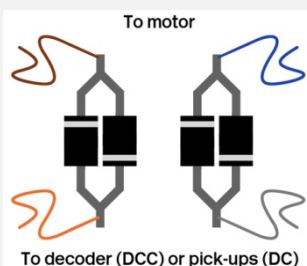
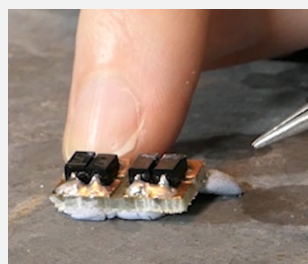
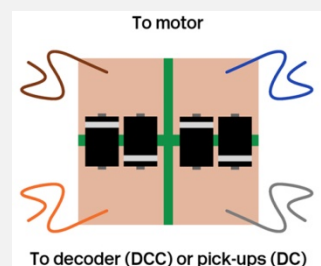

Figure 2: Through-hole variant
Figure 3: Completed surface-mount dropper
Figure 4: Surface-mount variant
- Using through-hole components:* Twist the legs of two through-hole diodes together, with each diode facing the opposite way. Do the same with the other two diodes. Use solder to strengthen the joints (see *Figure 2*).
- Using surface-mount components:* Create a small circuit board with four isolated copper pads and then solder on the surface-mount diodes in pairs. In each pair, the diodes should face opposite ways and bridge one gap together (see *Figure 3* and *Figure 4*).
Irrespective of which construction method is used, solder the wires coming from both the decoder (DCC) or pickups (DC/analogue) and the motor onto the diode voltage dropper, as per *Figures 2* and *4* below.
If the direction of travel of the model is incorrect when power is applied, simply de-solder the joints between the pickup and motor wires and switch the colours over. If you wish to use a diode voltage dropper in the circuit, insert this in line between the pickup wires and the motor wires (as per *Figure 2* and *Figure 4* above).
If the direction of travel the model is incorrect when DCC power is applied, you can either de-solder the motor wires and swap them over or, the easier option, alter CV29 so that the direction of travel is reversed. If you wish to use a diode voltage dropper in the circuit, insert this in line between the decoder's motor output wires and the motor wires (as per *Figure 2* and see *Figure 4*).